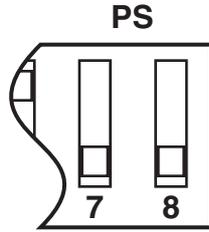
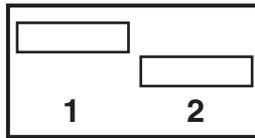

Figure 5-3c. ID Number DIP Switch
Figure 5-3d. PS DIP Switch ON.
For PS/2 (PS), position DIP Switch 7 and 8 in the downward direction. See **Figure 5-3c** and set the PC/PS switch as shown in **Figure 5-3d**.